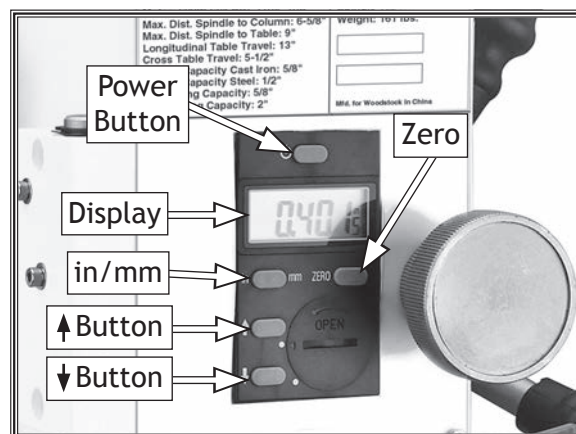

Figure 17. Identification of digital readout controls.
1. Press Power/⏻ button (see **Figure 17**). A reading should appear on display.